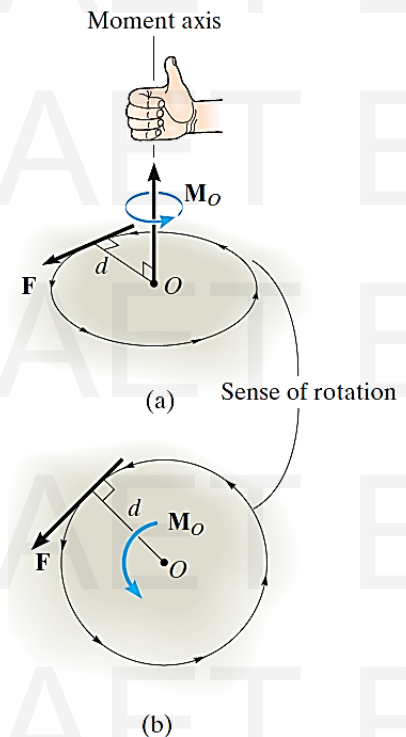

Figure 4–2: Moment Direction & Sense of Rotation
- As this action is performed, the thumb of the right hand will give the directional sense of  $M_o$ , Figure 4–2a.
- In two dimensions this vector is represented only by the curl as in Figure 4–2b.